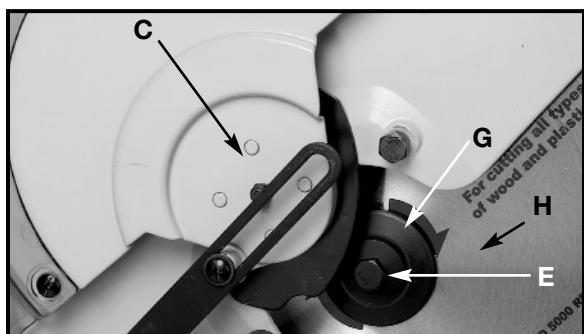
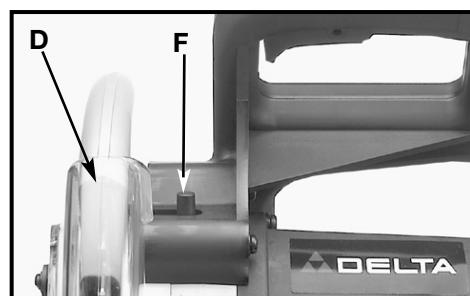

Fig. 42
Fig. 43
4. Rotate arbor cover (C) Fig. 42, and lower guard (D) Fig. 43, to the rear, exposing arbor screw (E).
5. Remove arbor screw (E) Fig. 42, by turning screw clockwise with wrench supplied, while at the same time, pressing in on arbor lock (F) Fig. 43, to keep the arbor from turning. Remove outside blade flange (G) Fig. 42, and saw blade (H) Fig. 42. **DO NOT REMOVE INSIDE BLADE FLANGE.**
6. Attach the new saw blade **MAKING CERTAIN TEETH OF SAW BLADE ARE POINTING DOWN AT THE FRONT**, and attach outside blade flange (G) Fig. 42. Check to see that the flats on outside blade flange are engaged with flats on arbor shaft.
7. Thread arbor screw (E) Fig. 42, into saw arbor by turning screw (E) counterclockwise as far as possible by hand. Then tighten arbor screw (E) with wrench supplied while at the same time pressing in on arbor lock (F) Fig. 43, to keep arbor from turning.
8. Rotate arbor cover (C) Fig. 42, and lower guard (D) to the front and tighten screw (A) that was loosened in **STEP 3**.